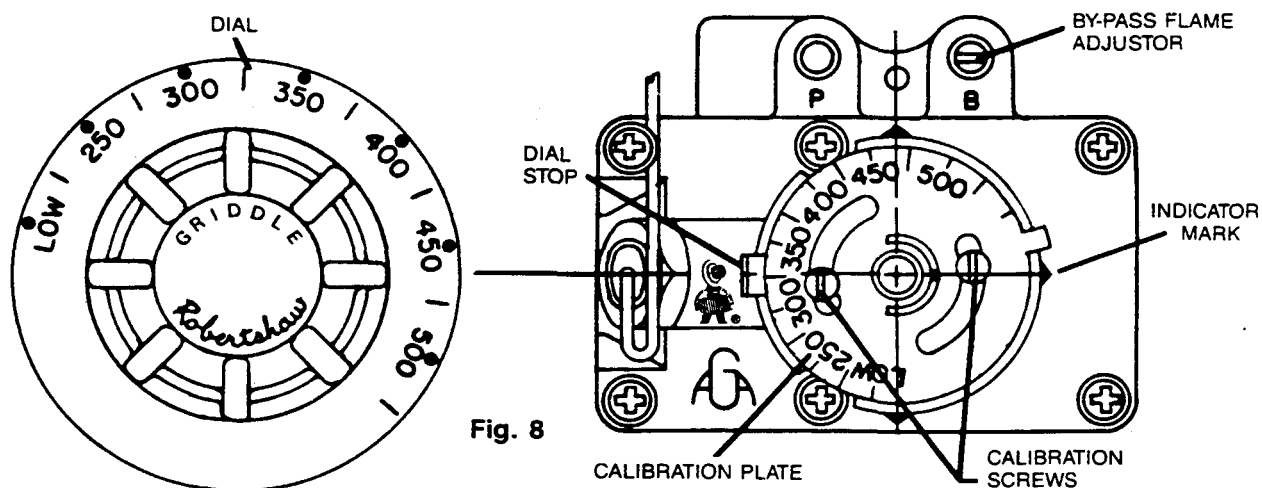

Fig. 8
2. Use the indicator mark as shown in Fig. 8.